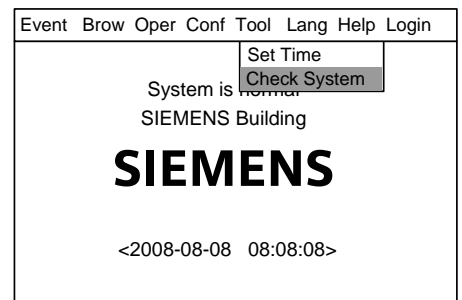
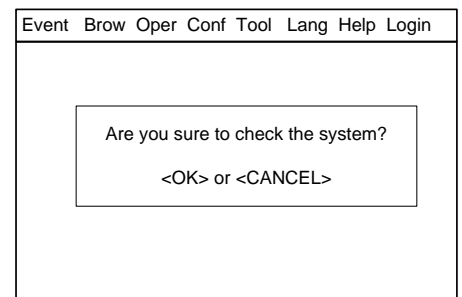

Fig.21-2
Fig.21-3
2. Press "→" to pop out the "Tool" submenu (Fig.21-2). Press "↓" to select "Check System" and press "OK" to display the checking system window (Fig.21-3). Press "OK" to examine the system.